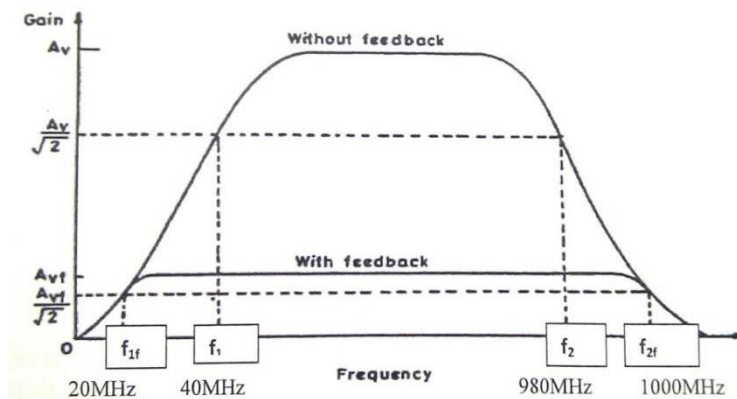

Figure 3.40
6. Compare THREE (3) advantages and disadvantages of negative feedback
7. Explain THREE (3) characteristic negative and positive feedback
8. According to Figure 3.40 below :